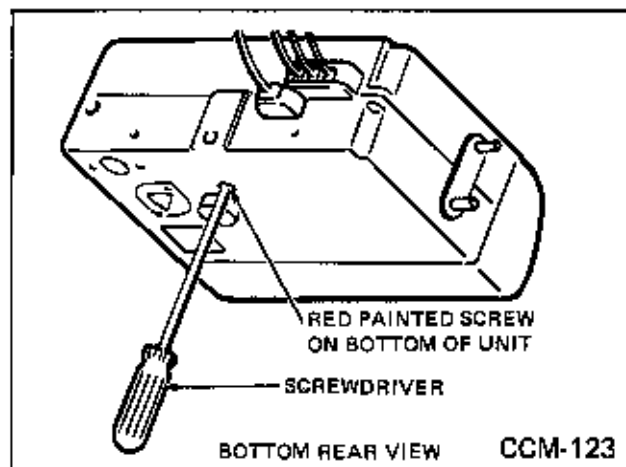

Fig. 118
2. Note red painted screw on bottom of unit. (Fig. 118)